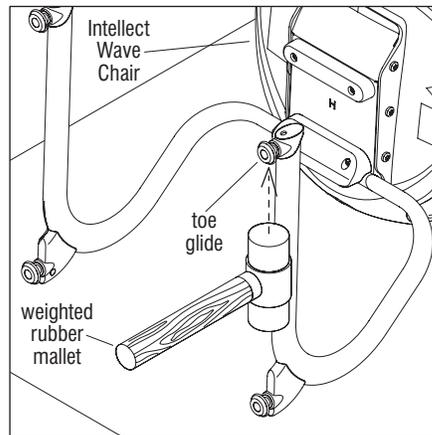

Figure 4
3. Using a weighted rubber mallet, pound the glide out as illustrated (Figure 4).